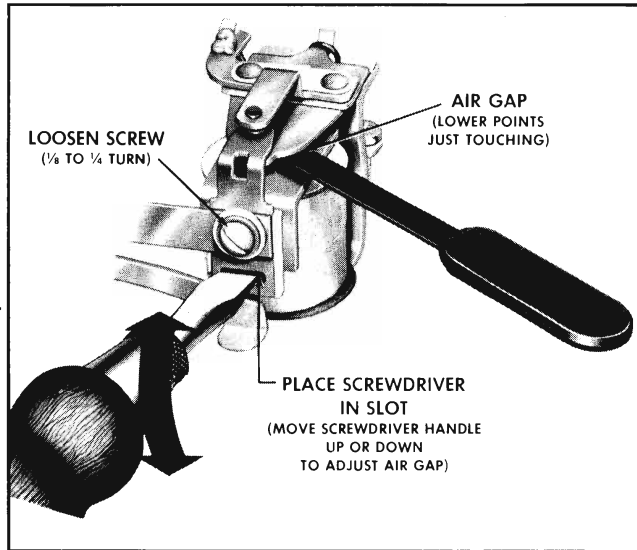

Fig. 11-48 Adjusting Voltage Regulator Air Gap on Double Contact Voltage Regulator
1. With lower contacts touching, measure air gap between armature and winding core as shown in Fig. 11-48. Air gap should be .067".
2. Adjust by loosening contact support bracket screw approximately $\frac{1}{8}$ to $\frac{1}{4}$ turn. Place a screwdriver in slot in contact support bracket and into the molded insulator as shown in Fig. 11-48. Raise on the handle of the screwdriver to increase air gap and lower the handle of the screwdriver to decrease air gap.